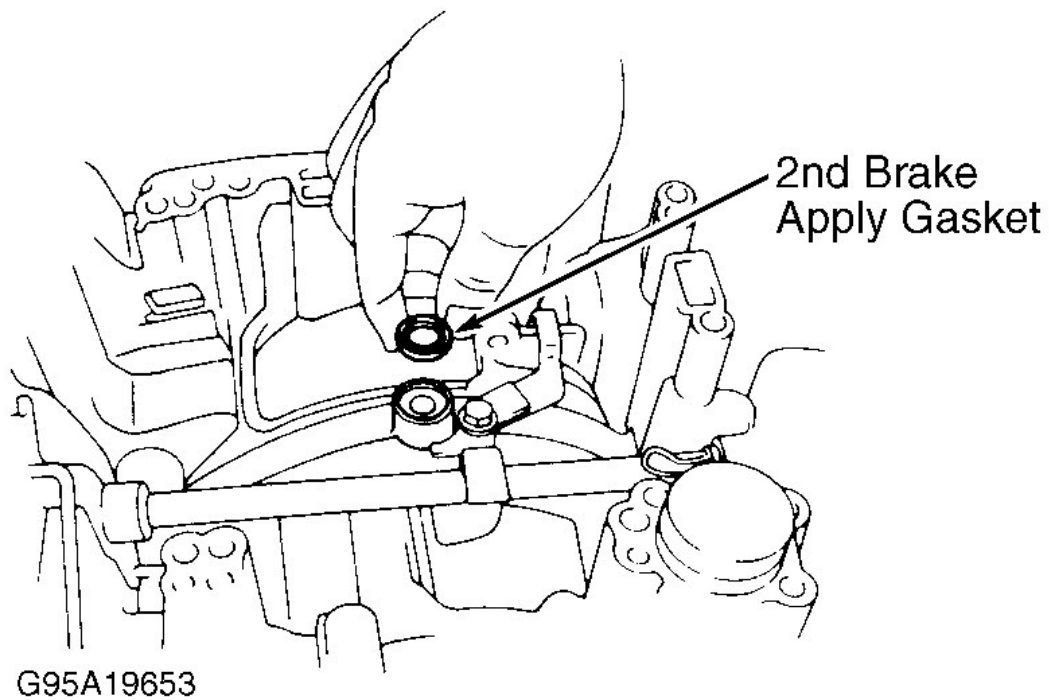
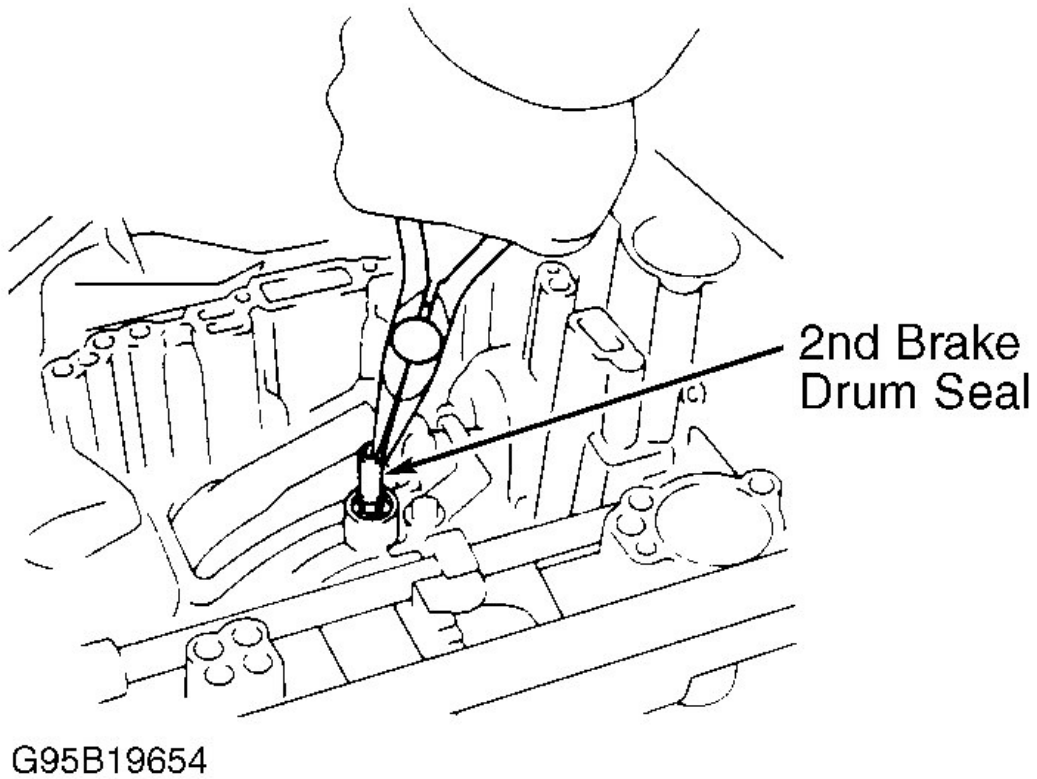

Fig. 12: Removing 2nd Brake Apply Gasket
Fig. 13: Removing 2nd Brake Drum Seal
under ON-VEHICLE SERVICE. Remove throttle cable and solenoid sub-harness from transaxle case. Remove 2nd brake apply gasket. Remove 2nd brake drum seal. See **Fig. 12** and **Fig. 13**.
4. Apply 14 psi (1 kg/cm²) of compressed air to oil passage to remove 2nd brake accumulator piston and spring. See **Fig. 12** and **Fig. 13** .